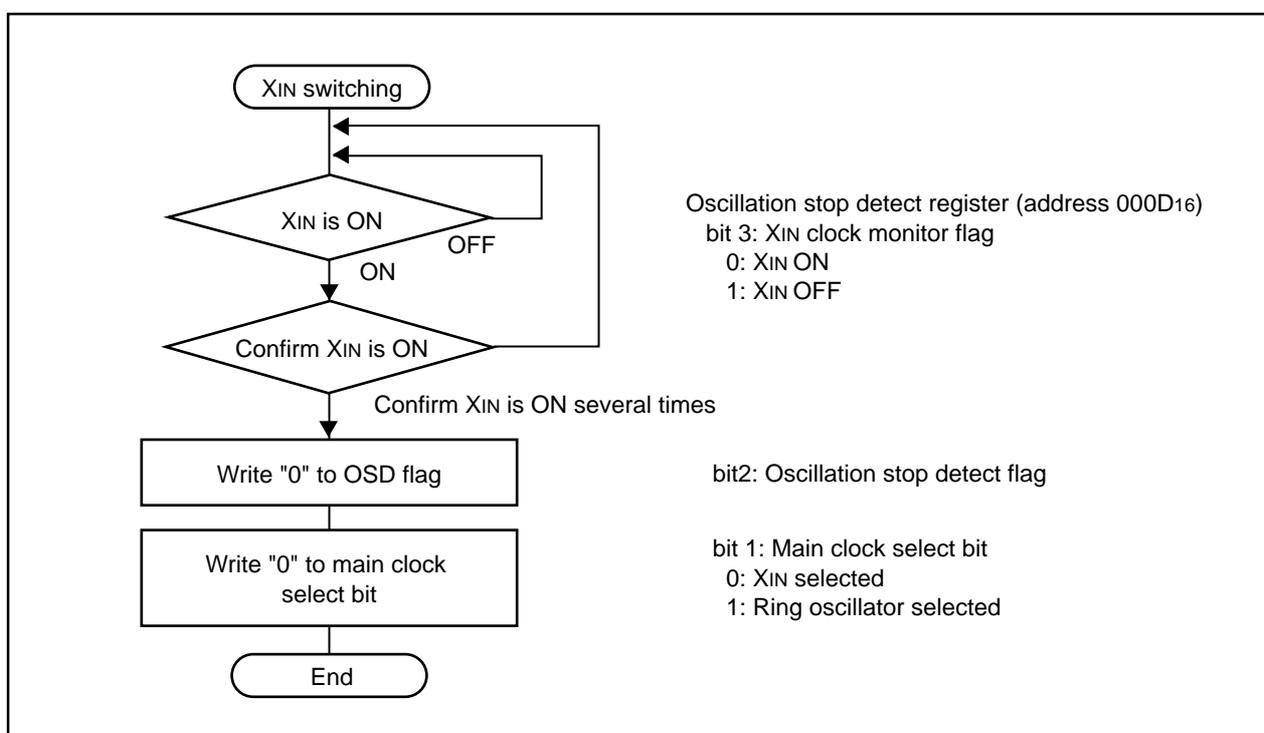

Figure 1.8.8. Main clock switching sequence
- 4) XIN does not become main clock although XIN On after oscillation stop detects. When you want XIN to be main clock, execute a process shown in Figure 1.8.8.